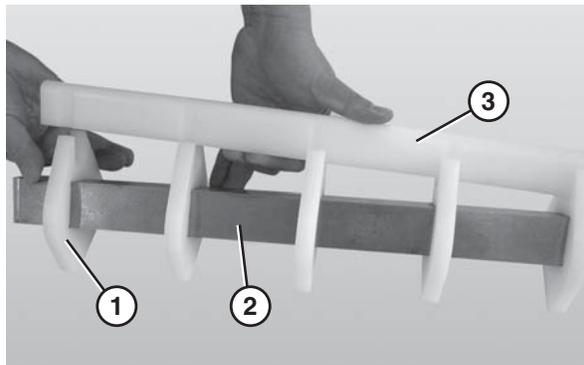

Figure 66
- Remove the nose bar wear strip (Figure 66, item 3).
- Slide the nose bar pucks (Figure 66, item 1) off the nose bar shaft (Figure 66, item 2).